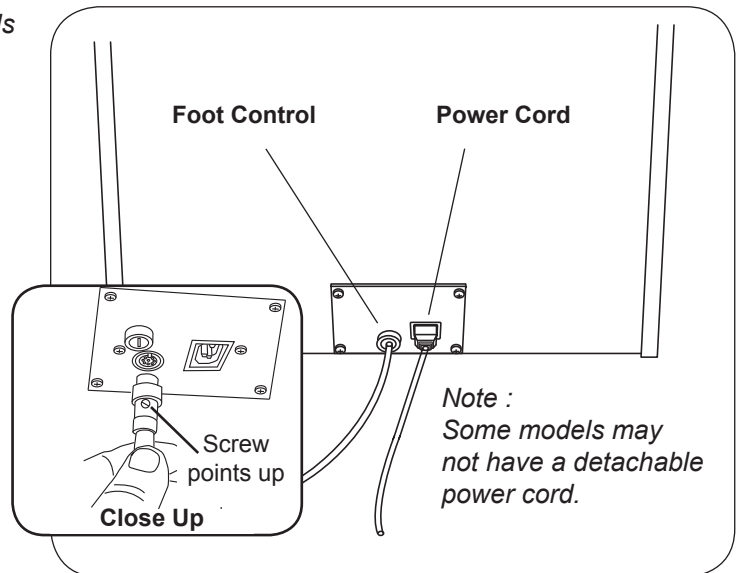

Figure 19 Power Cord and Foot Control.
2. Insert the female plug end of the power cord into the receptacle on the table (Figure 19). Make sure the tabs are aligned and the plug is fully seated.
1. Insert the male plug of the foot control cord into the receptacle on the table (Figure 19). Make sure the pins are properly orientated and the plug is fully seated.